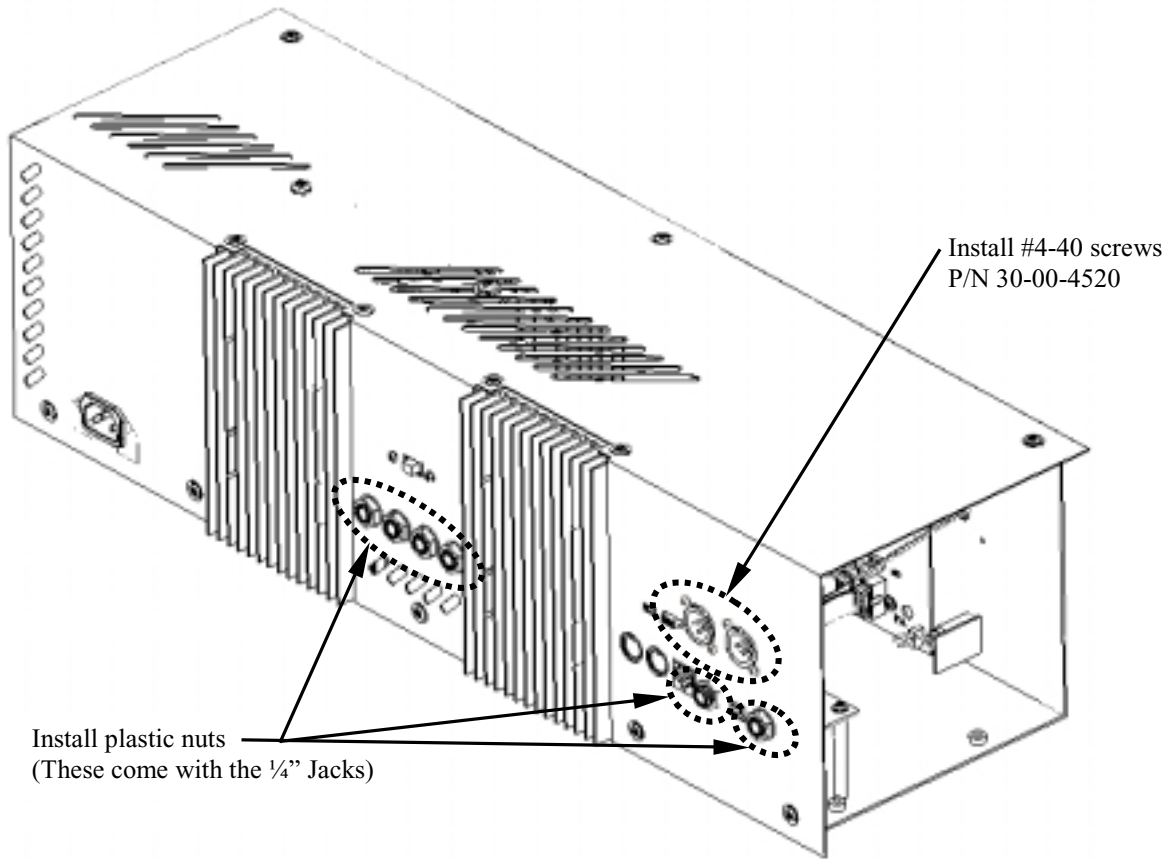

Figure 23
- d. Install plastic nuts onto input/output jacks. See figure 23.
- e. Install four 4- x 1/4 screws into XLR jacks. See figure 23.